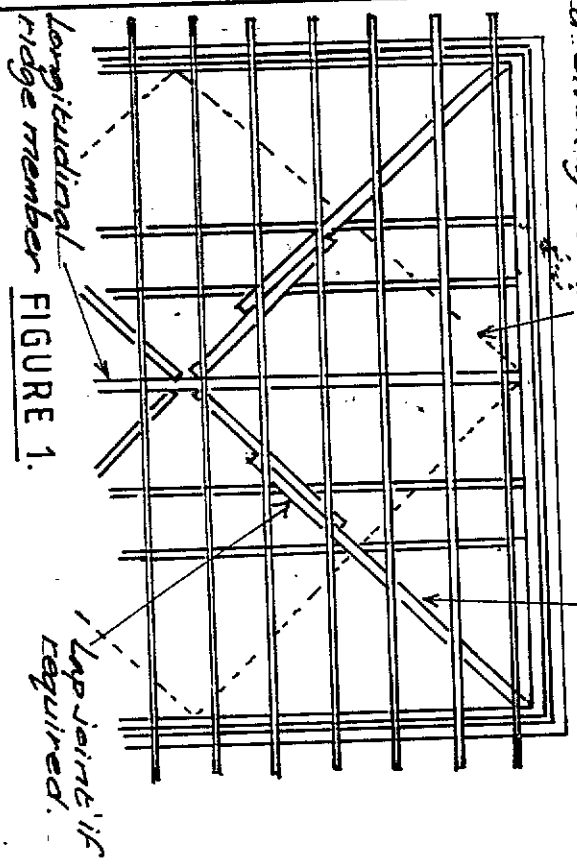

FIGURE 1.
The following minimum requirements for bracing and longitudinal binders shall be complied with (read with appended figures 1 to 4 inclusive).
- Provide continuously throughout every roof (or section of roof between separating cross walls) 100 X 25mm raking main braces, twice nailed to the underside of rafters of every truss. The braces shall run at approximately 45 degrees from ridge to eaves and be applied to both pitches, Figure 1.